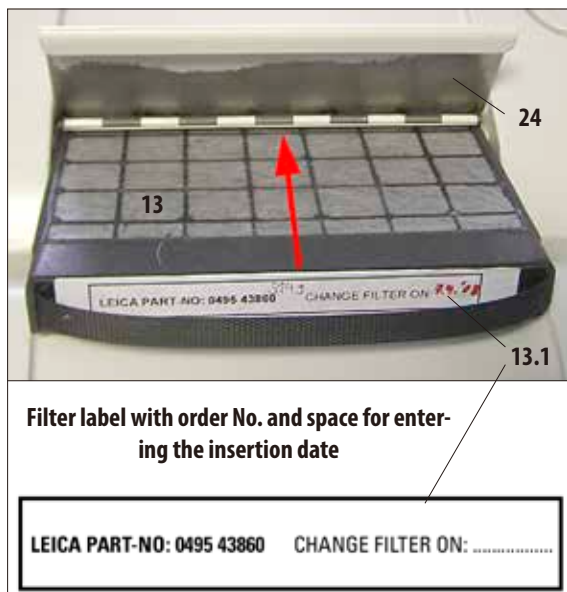

Fig. 32
- To insert/replace the active carbon filter (13), open the flap (24) behind the retort lid.
- Push the filter in as far as it will go with the handle facing forwards in the direction of the arrow, as shown in Fig. 32.